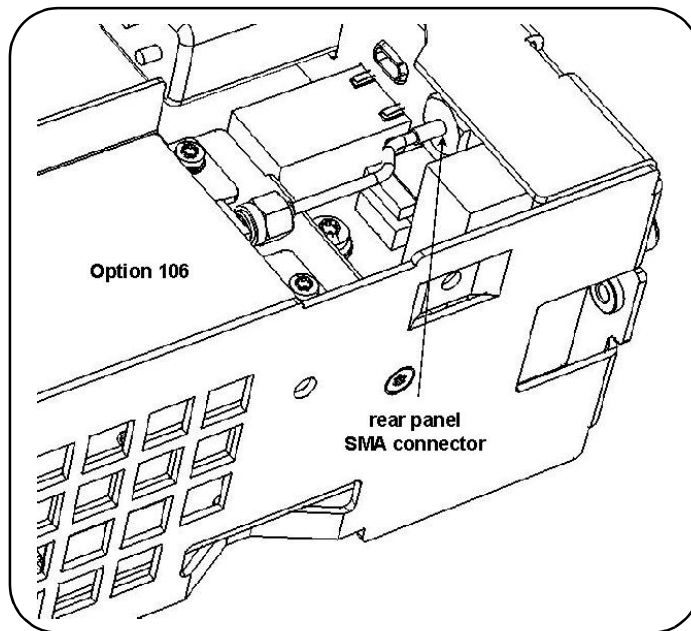

Figure 17. Channel 2 assembly with Rear Panel SMA Connector.
4. Set the Channel 2 assembly down on top of the motherboard so that the SMA edge connector is towards the rear panel. The front flange on the right-front of the Channel 2 assembly bracket must rest on the tab protruding from the front panel (see Figure 17).